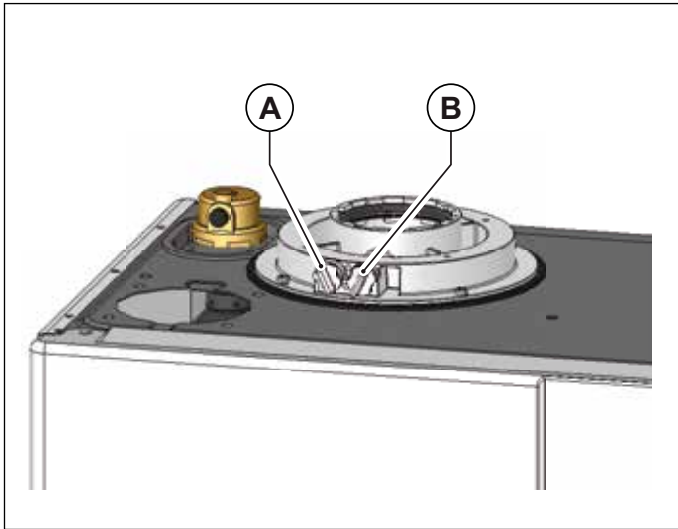
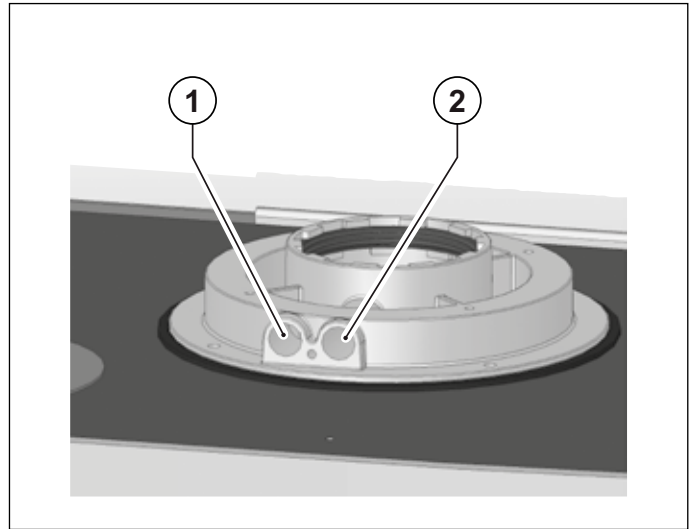

Fig. 20 Plugs position
Fig. 21 Hole position
The boiler is equipped with a tower allowing for air intake/flue gas venting pipe connection (see Fig. 20 Plugs position and Fig. 21 Hole position).
The tower is designed with two pre-arranged openings directly accessing air and flue gas ducts (see Fig. 20 Plugs position).
Remove caps **A** and **B** from the pre-arranged openings on the tower, before starting combustion checking procedure (see Fig. 20 Plugs position).
- assess combustion air from opening **1** (see Fig. 21 Hole position).
- assess flue gas temperature and CO2 from opening **2** (see Fig. 21 Hole position).